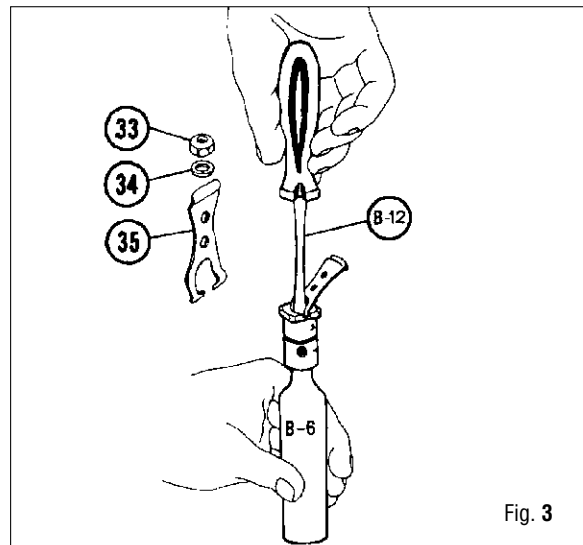

Fig. 3
13. Place a new demand lever lock nut 33 on the threaded stem of the poppet assembly and tighten the lock nut, with tool (B-12) or (B-20), until approximately 1.5 mm. (18/16 in.) of the poppet stem is protruding from the nut. Depress the demand lever several times to ensure freedom of movement. (See Fig. 3).